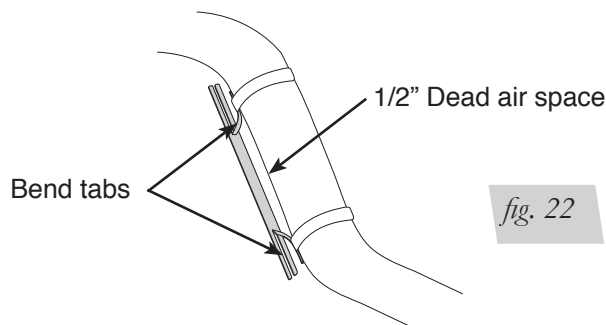

fig. 22
1. Bend tabs to provide a 1/2" dead air space between exhaust pipe and heat shield (fig. 22).
2. Attach the heat shield to the exhaust pipe using the clamps. Bend the heat shield for maximum clearance to the air spring (fig. 22).